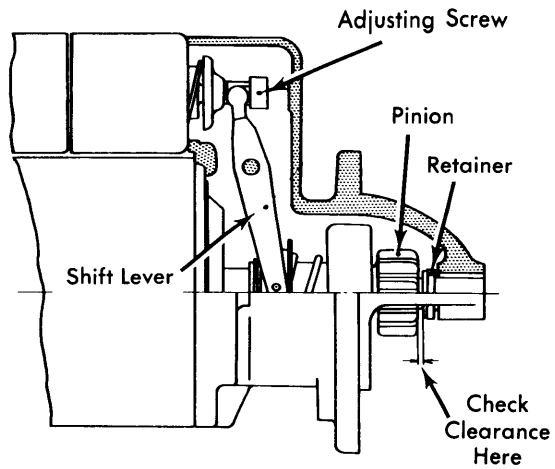

Fig. 2 Checking the Pinion Clearance
**Pinion Clearance** – Connect an electrical source of 6 volts to starter motor. **CAUTION** – Do not use more than 6 volts or motor will operate. After energizing magnetic switch, push pinion away from stop retainer and use feeler gauge to check clearance between overrunning clutch and retainer. If clearance is not within specifications, readjust by turning the adjusting screw (see Fig. 2).